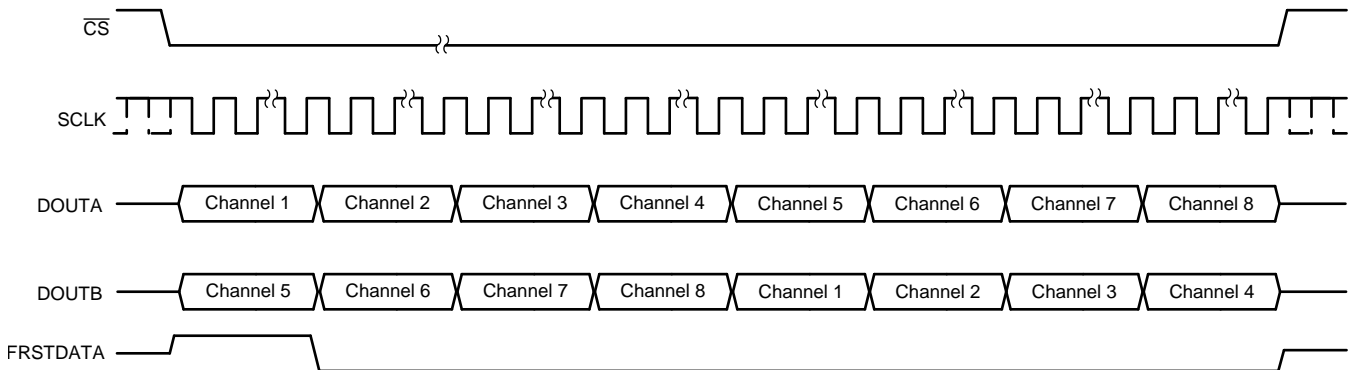

Figure 69. Data Read Back in the Serial Interface Using Either DOUTA or DOUTB Timing Diagram
- The conversion data can be read out of the device using only one of the two serial output lines, DOUTA or DOUTB. In this case, using DOUTA for output data read back is recommended because channel 1 data appear first on DOUTA followed by the data for other channels in ascending order. To read the data for all channels, provide a total of $16 \times 8 = 128$ SCLK cycles for the ADS8588S. This entire data frame can be created within a single $\overline{\text{CS}}$ pulse or each group of 16 SCLK cycles can be individually framed by the $\overline{\text{CS}}$ signal. The primary disadvantage of using just one data line for reading conversion data is that the throughput is reduced if a data read operation is performed after conversion. Figure 69 shows this operation.
- Alternatively, only DOUTB can be used for reading the conversion data from all channels. In this case, everything else remains the same and the output bit stream contains data for all channels in the following order: channels 5, 6, 7, 8, 1, 2, 3, and 4 for the ADS8588S. Figure 69 shows this operation.